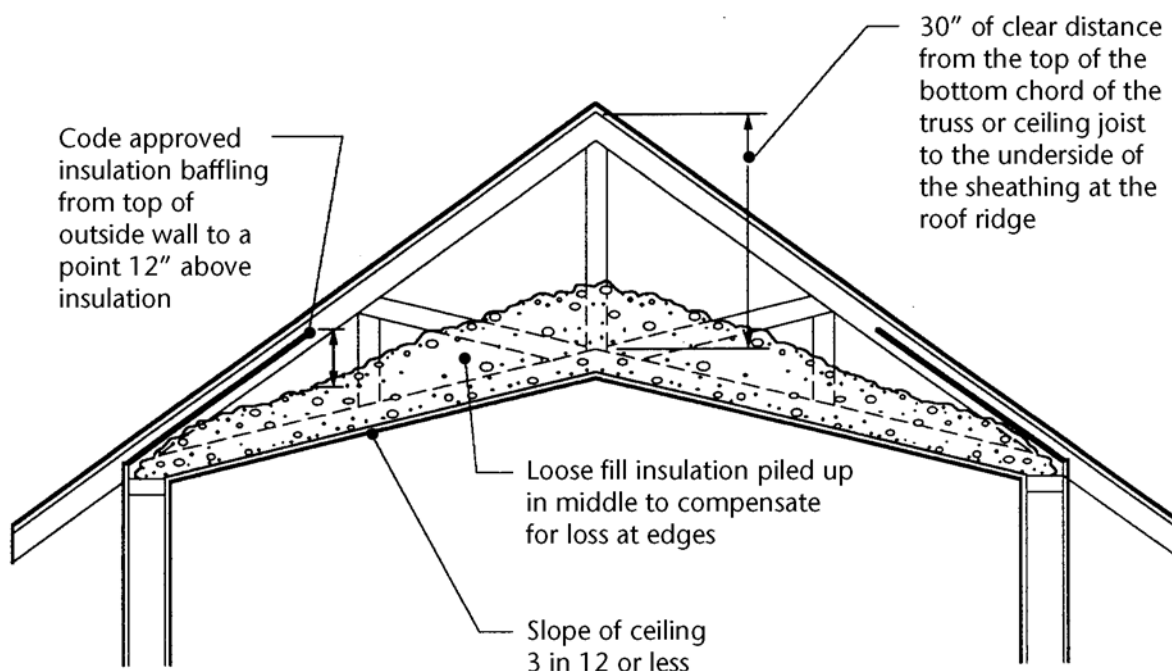

Figure 4-8
**Loose-Fill Insulation.** Loose-fill or blown-in insulation is commonly installed in ceilings (see Figure 4-8). The following requirements apply when using loose-fill insulation: